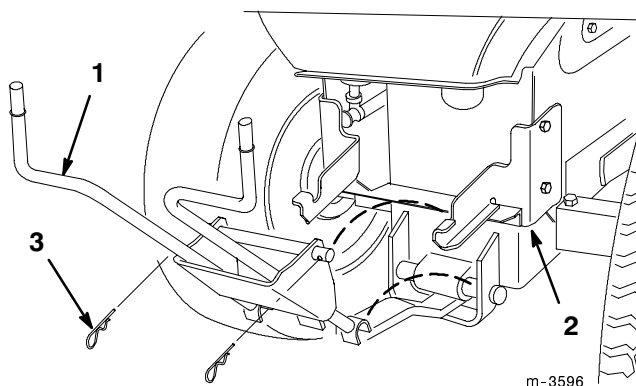

Figure 23
- Remove the hairpin cotters from the holes at the bottom of the quick-attach bracket (Fig. 23).
- Lift the quick-attach bracket from the hitch (Fig. 23).